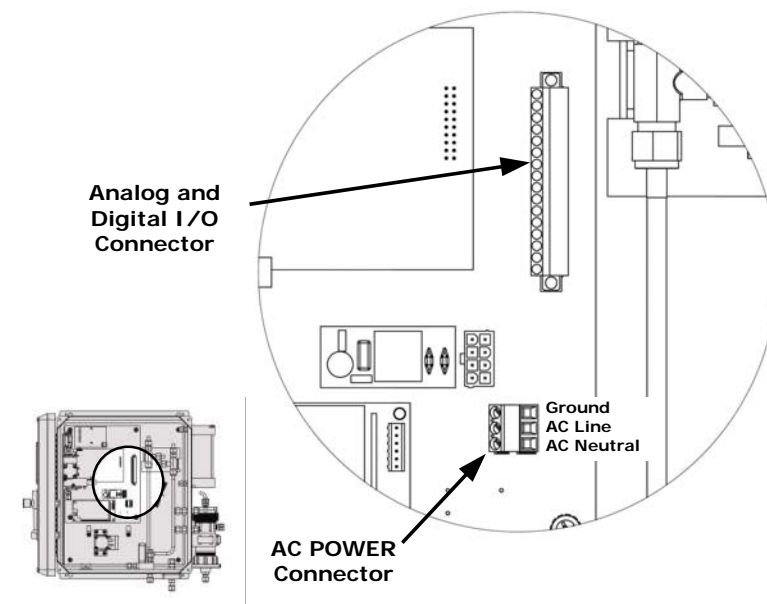

Figure 3-5 Location of Electrical Connectors
2. Attach the leads of the power line to the AC power connector (see Figure 3-5)
All digital and analog signal I/O connections are made via a 16 pin connector on the mainboard (See Figure 3-5 for the location of the connector.)